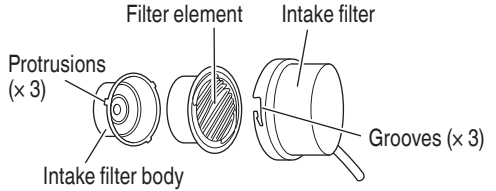

Fig. 6A
- Turn the intake filter counter-clockwise until it stops and then remove the intake filter cap and filter element. (Fig. 6A)